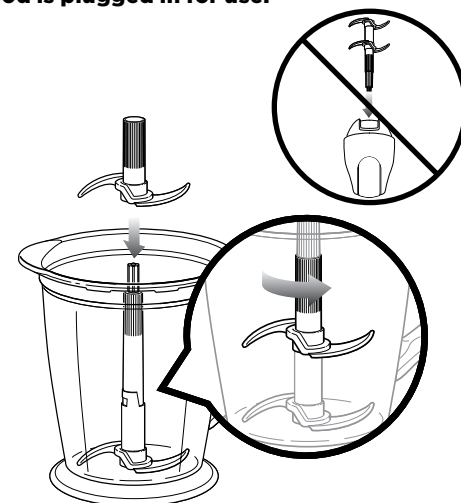

Fig. 2
- 4 Holding the Upper Pitcher Blade Assembly carefully by the shaft, insert the Upper Pitcher Blade Assembly over the Lower Pitcher Blade Assembly rotating it until it locks onto the Lower Pitcher Blade Assembly. **(fig. 2)**